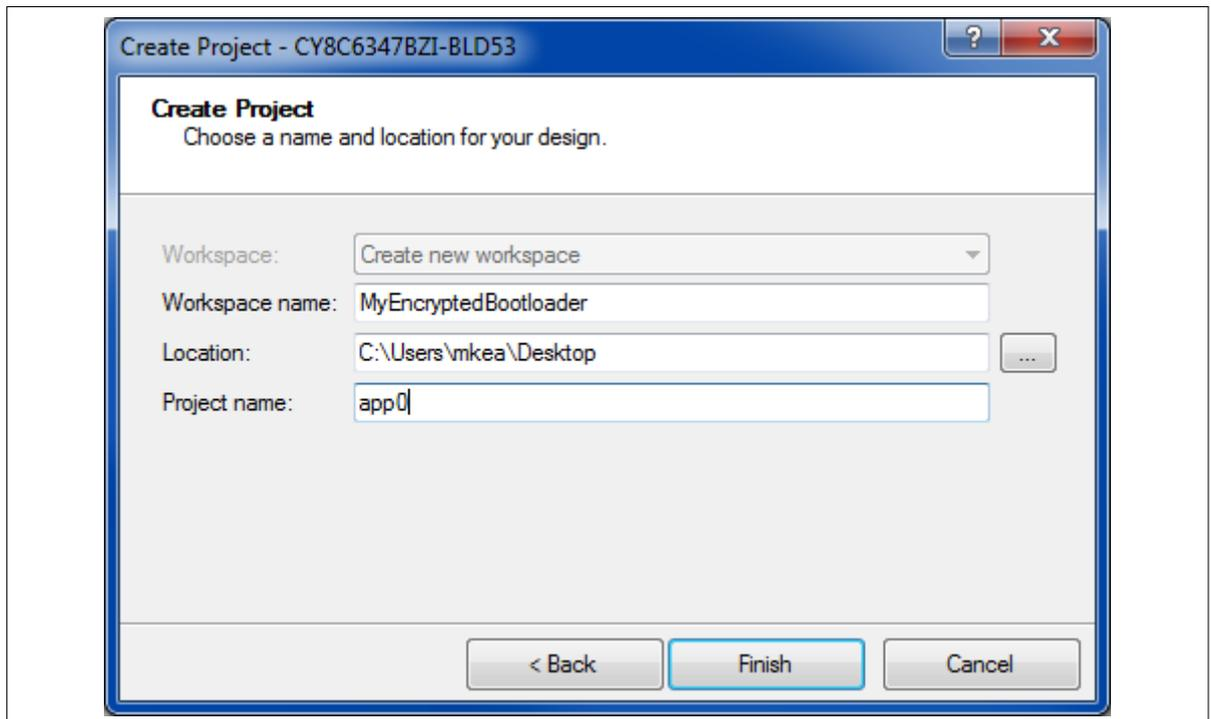

Figure 30 PSoC Creator create encrypted bootloader App0
1. Create App0 and the workspace, as Figure 30 shows